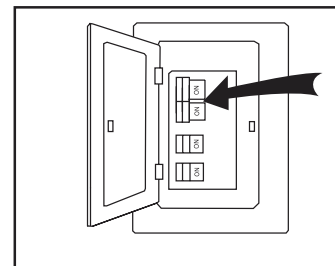

Fig. 11
11. Turn on the electric circuit at the main fuse or circuit breaker box (Fig. 11).